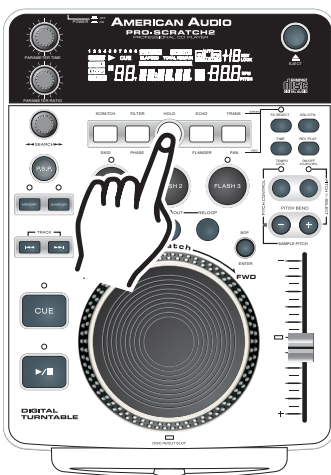

Figure 56
**HOLD BUTTON:** Use the *HOLD BUTTON (2)* to lock your customized parameters. If the hold button is not activated any changes to your parameters will be momentary. To activate the hold function press the *HOLD BUTTON (2)* as in figure 56. When the hold function becomes activated, the hold button will begin to glow blue.